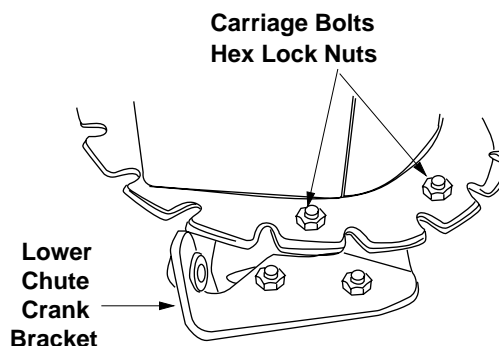

Figure 16
3. Loosen the carriage bolts and hex lock nuts which secure the lower chute crank bracket to the extension on the left side of the chute assembly. See Figure 16.